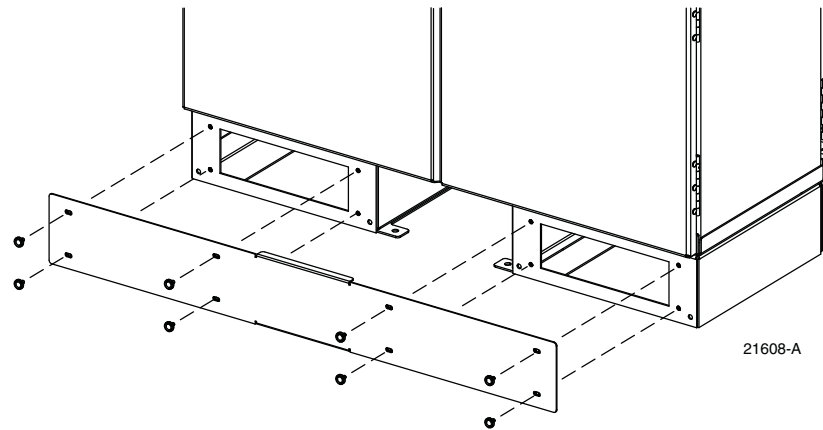

Figure 13. Removing Access Covers From Ground Spacer/Riser
1. Use a 3/16-inch hex-key to remove the screws that secure the front and back access covers to the cabinet ground spacer/riser as shown in Figure 13.